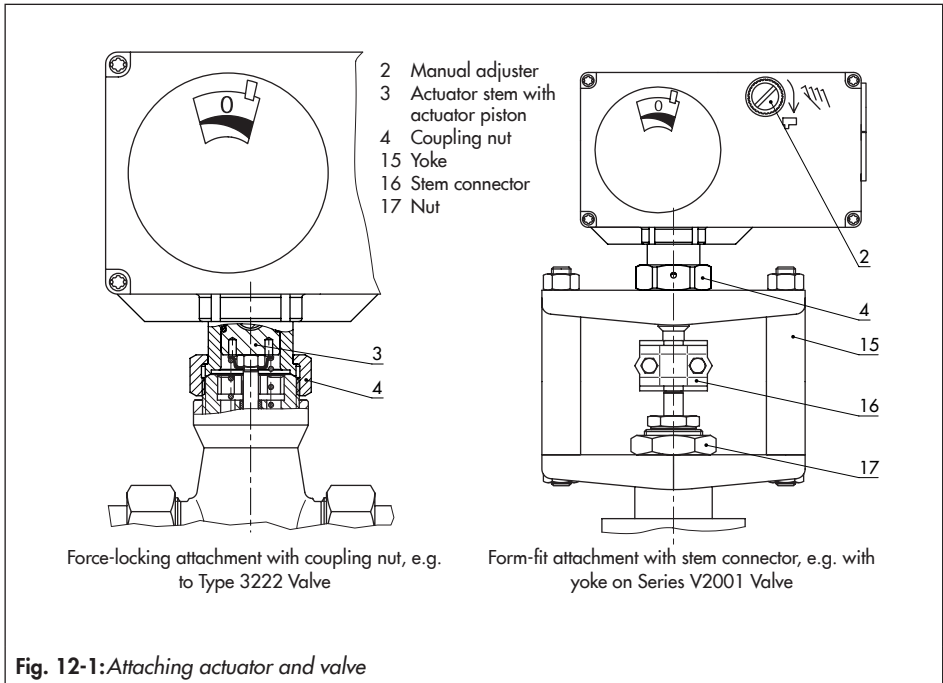

Fig. 12-1: Attaching actuator and valve
4. Unscrew the coupling nut (4 in Fig. 12-1) and remove the actuator from the valve connection.
3. Unfasten the stem connector clamps (16 in Fig. 12-1) between the actuator stem and the plug stem.
5. Undo the nut (17 in Fig. 12-1) and remove the rod-type yoke (15 in Fig. 12-1) together with the actuator from the valve.
6. Undo the coupling nut (4 in Fig. 12-1) and remove the actuator from the rod-type yoke (15 in Fig. 12-1).